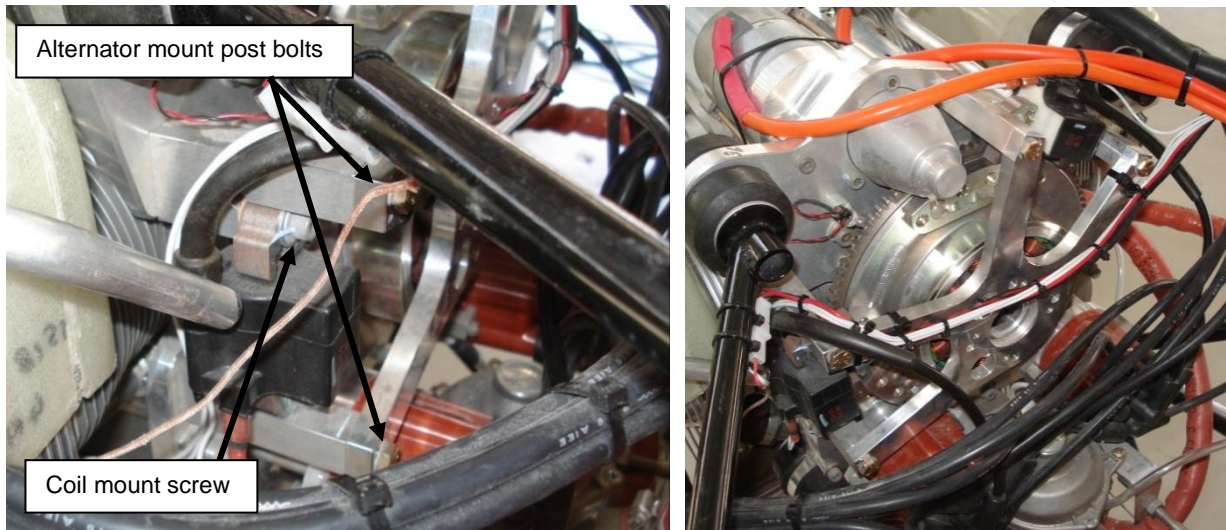

Figure 174 – Ignition Post & Alternator Stator Installation
- The alternator and ignition coil posts are held to the engine using 4 off AN4-37A bolts. Ensure that metal-lock nuts are used as shown in Figure 174. Roll pins are also used to hold these parts in position – tap them together on assembly using a soft hammer.